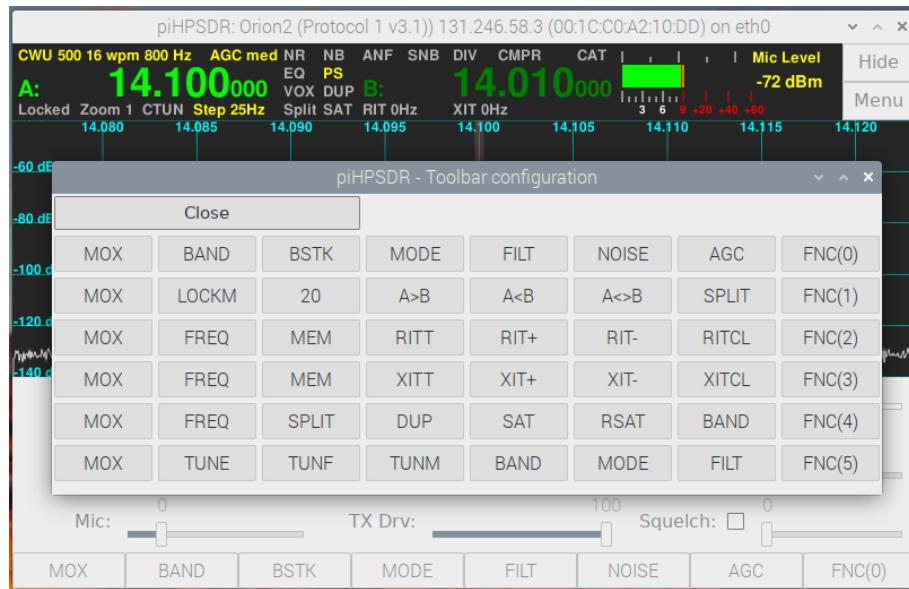

Fig. 10.4: Toolbar assignment accomplished.
If one now closes the action dialog by clicking the OK button, the action select menu closes and one sees that in the toolbar menu now reappearing (Fig. 10.4), the third button in the second line of the toolbar menu has changed, it now gives the short text (20) of the action, which will switch the active receiver to the 20m band (see the explanation of all the actions in Appendix A).